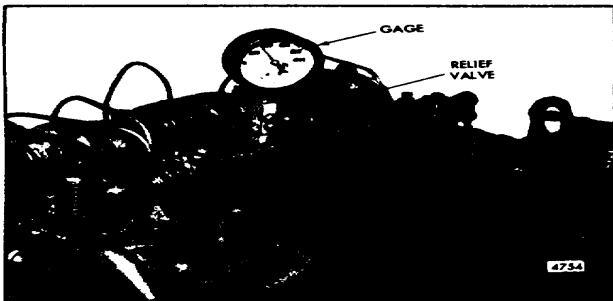

Fig. 1 Checking Compression Pressure
3. Remove the injector and install adaptor J 7915-02 and pressure gage and hose assembly J 6992 (Fig. 1).